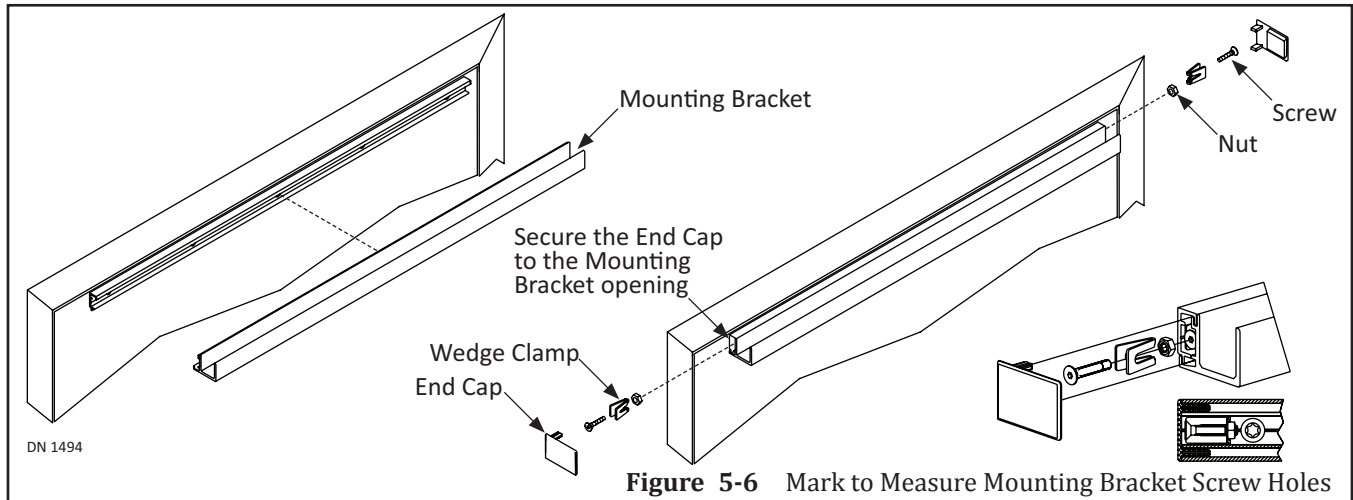

Figure 5-6 Mark to Measure Mounting Bracket Screw Holes
1. Assemble and then secure the Guide Track to the Mounting Bracket on each side, with: (1) nut, (1) Wedge Clamp, and (1) screw. Please see Figure 5-6.
2. Insert (1) end cap into each side.